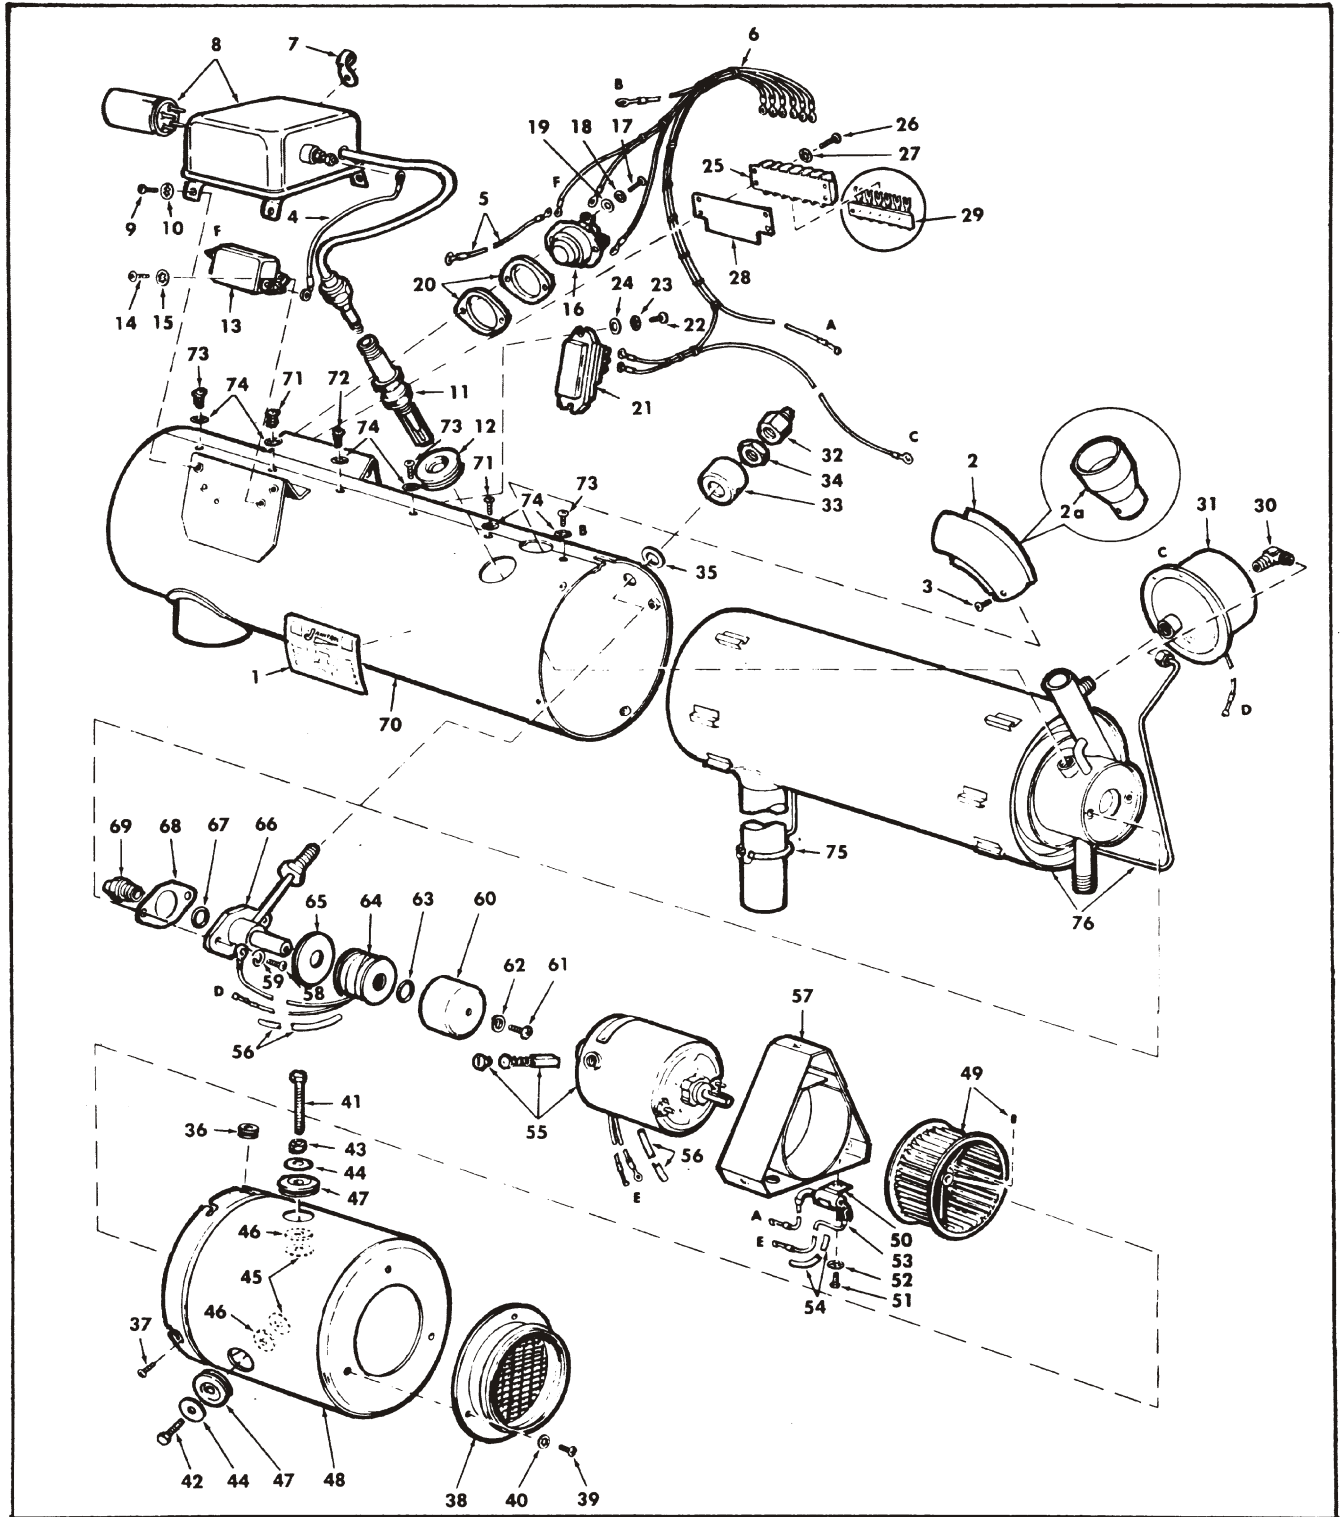

FIGURE 6-1 Exploded View of Business Aircraft Heater Assembly Non-Pressurized
(1) Using filtered compressed air, apply 20 psi to the shroud drain port, located on the surface near the threaded nozzle cavity.
(2) Immerse the fuel feed and nozzle holder assembly in clean water with the fuel inlet and nozzle cavity left open.
(3) Observe for bubbles which would indicate leakage. If bubbles appear at either fuel fitting, there is a leak in the fuel tube. If bubbles appear externally on the shroud tube, or at either end of the shroud tube juncture, the shroud tube is leaking.
(4) In either of the above cases, the complete fuel feed and nozzle holder assembly must be replaced.
e. Test the spray nozzle (69, Figure 6-1; 38, Figure 6-2) as follows:
(1) Install the nozzle in the fuel feed and nozzle holder assembly and connect the fuel tube to a 7.5 psi fuel pressure source for aviation gasoline heaters and 100 psi source for kerosene heaters.
(2) Connect the solenoid leads to a 12-volt or 24-volt battery (as required). Connect a switch in the line to open and close the solenoid when desired.
(3) With the switch closed (solenoid valve energized) and the fuel line connected, observe the fuel spray pattern. It should be conical in shape with even dispersion in all directions.
4.11 Reassembly (See Figure 6-1)
a. If removed during disassembly, slide the solenoid coil (64) on the stem of the nozzle holder and sole-
l. Insert the fitting on end of nozzle fuel tube through the opening in jacket (70) and attach the nozzle holder to the combustion tube assembly (76) with the two screws (58) and lockwashers (59). It may be necessary to place a slight bend in the shrouded fuel tube to permit alignment of screw holes. Be sure to use a new gasket (68) and connect the solenoid ground wire under one of these screws. Make sure a good electrical ground connection exists at this point.
m. Using a new spark plug gasket, install the spark plug (11) and tighten to a torque of 28 pounds-feet. Install the grommet (12) in the jacket around the spark plug.
n. Install the ignition assembly (8) on the jacket assembly (70) with the four screws (9) and lockwashers (10). Connect the high-voltage lead to the spark plug and tighten it to 20 pounds-feet.
o. Attach the radio-noise filter (13, Figure 6-1), not used on new ignition box (14, Figure 6-2), to the jacket assembly (70) with the two screws (14) and lockwashers (15).
p. Attach the overheat limit switch (16) and spacer gaskets (20) to the jacket assembly (70) with the two screws (17), lockwashers (18) and flat washers (19). Tighten the screws securely. (Sealed on some heaters.) After installing overheat limit switch (16) and cycling switch (21), visually check to make sure that switch does not come in contact with outer radiator.
q. Attach the cycling switch (21) to the jacket assembly (70) with the two screws (22), lockwashers (23) and flat washers (24). (Sealed on some heaters.)
r. Place the terminal strip insulator (28) in position on the jacket (70), followed by the terminal strip (25). Secure both parts by installing the two screws (26) and lockwashers (27). The two screws are located at two diagonal corners of the terminal strip.
s. Center the fuel fitting in jacket opening. Place the fuel fitting shroud gasket (35) and shroud (33) on the fuel fitting, and install the nut (34) finger tight. Insert a 3/4 inch open-end wrench inside the jacket and hold the fuel-tube fitting while tightening the nut (34) with a 3/4 inch deep socket. Install the reducer fitting (32), if used.
t. Rotate the combustion air switch (31) onto the threaded fitting on the combustion air tube and tighten it firmly.
u. Slide the grommet (36) over the combustion air tube and connect the tube to the elbow fitting (30) on the combustion air pressure switch (31). Grommet can be split for easier installation.
v. Install the wiring harness (6) and connect all wire leads to their respective terminals. (Refer to the wiring diagram, Figure 2-6.) Place the grommet (36, Figure 6-1) in position in the jacket (70), locate the ventilating air housing (48) at the end of the jacket. Thread the quick disconnect on the wiring harness (see Figure 6-1) through the grommet (36) and connect it to the mating connector on the motor lead.
w. Place the blower housing in position on the jacket assembly (70) and secure it by installing the four screws (37), if removed at disassembly. This operation is easier if the screws (37) are started into their threads and the blower housing rotated into place, allowing the screws to enter the notched openings in edge of blower housing. Tighten all screws securely.
x. Install the elbow adapter (2), or the straight adapter (2a), as used on the particular heater involved, with the screw (3).